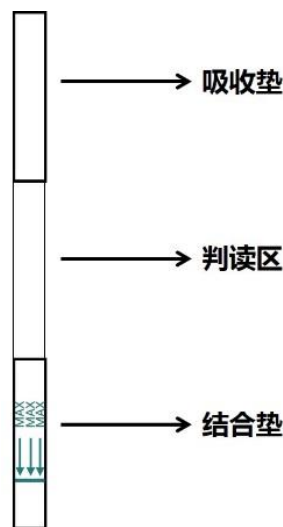

Figure 1. Schematic Diagram of Disposable Nucleic Acid Detection Test Strip Structure
1. Take out the corresponding number of test strips according to the number of samples to be tested, and mark them on the absorbent pad (Figure 1). Each test strip can only be used for single detection of a single sample. When the amplification product volume is 50-100 μL, the nucleic acid product can be directly detected in a
2. After PCR, RPA, or RAA reaction is completed, open the PCR reaction tube and insert the conjugate pad end (arrow end) of the test strip into the PCR reaction tube (Figure 1). The liquid level must not exceed the top of the conjugate pad. Wait for the reading zone to be fully wetted (approximately 1-2 minutes; when the ambient temperature is low, such as in winter, the wicking speed will be reduced and the wetting time of the reading zone will be extended). After the control line (C line) develops color, the test strip can be removed. Read the detection result directly according to the color development of the test strip.